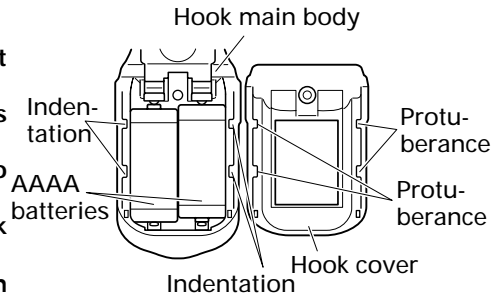

Fig. 16
- (2) Remove the old batteries and insert the new batteries. Align with the hook indications and position the plus (+) and minus (-) terminals correctly. (Fig. 16)